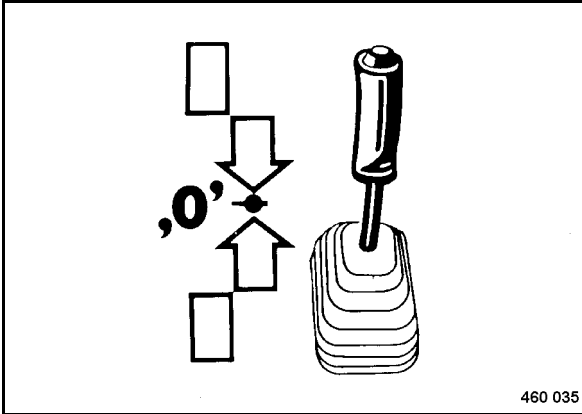

Fig. 64
- Shift the travel lever (Fig. 64) slowly to position "0". The hydrostatic drive automatically brakes the machine.